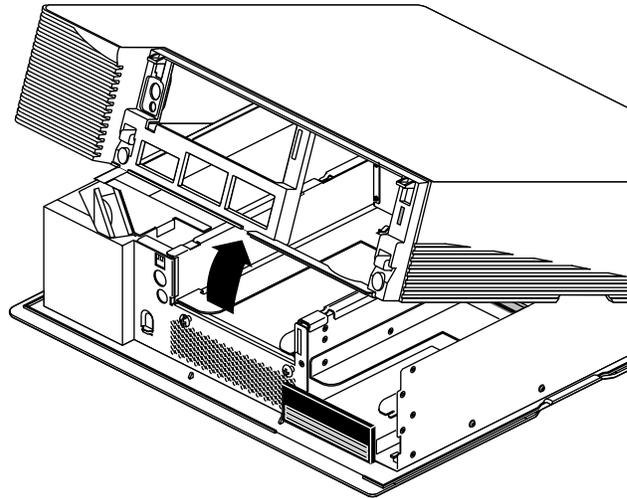

Figure 2-6 Removing the Top Cover
- Pull up on the cover and rotate it back and away from the chassis, as shown in Figure 2-6.